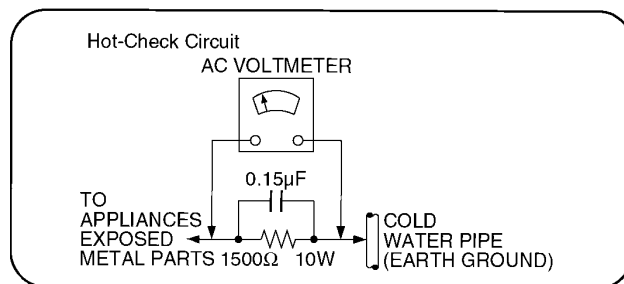

Figure 1
1.1.2. Leakage Current Hot Check (See Figure 1.)
2. Connect a 1.5kohm, 10 watts resistor, in parallel with a 0.15µF capacitors, between each exposed metallic part on the set and a good earth ground such as a water pipe, as shown in Figure 1.